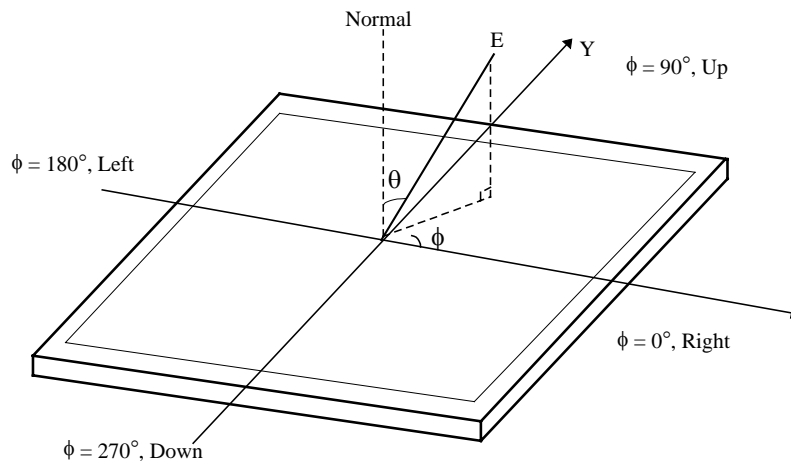

Figure 7. Viewing angle
5. Viewing angle is the angle at which the contrast ratio is greater than 10. The angles are determined for the horizontal or x axis and the vertical or y axis with respect to the z axis which is normal to the LCD surface. For more information see Figure 7 .